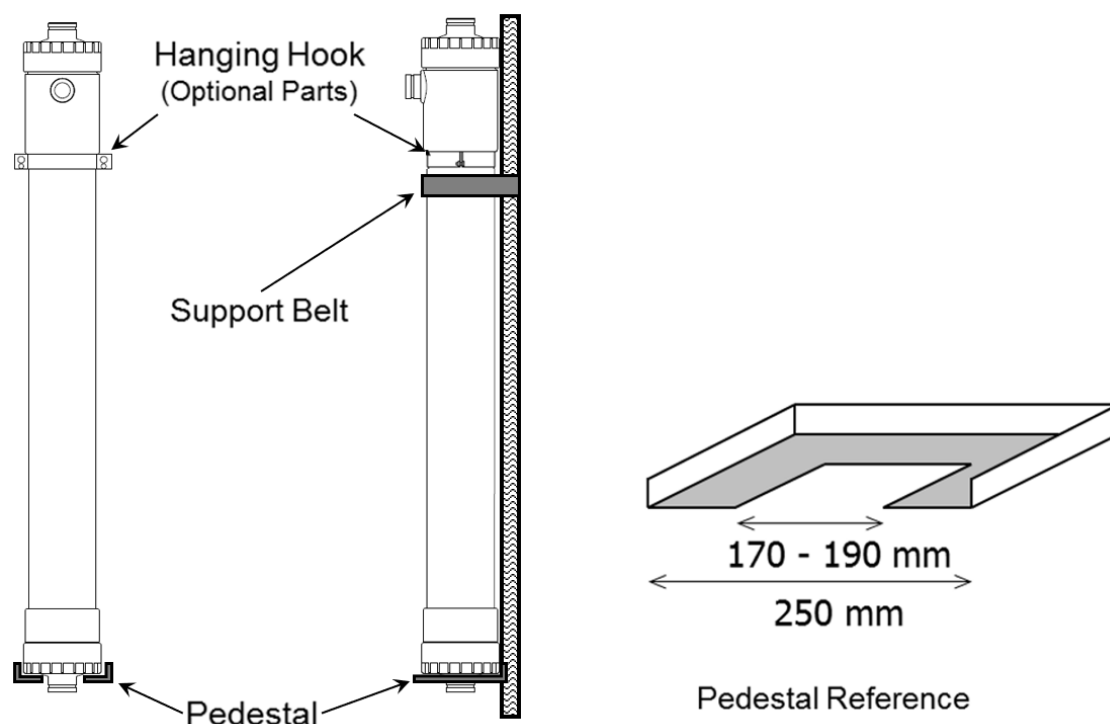

Fig. 3. Typical example of the membrane module installation
4. Put the module vertically on a piping or a pedestal in the module rack. Fix the module upright with the hanging hook and/or a support belt (see Fig. 3).